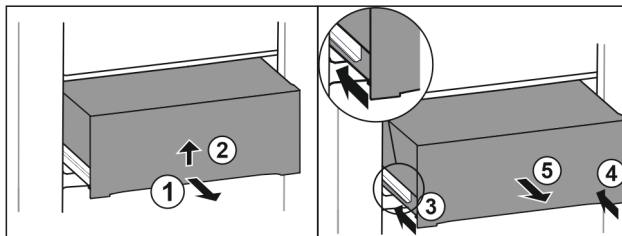

Fig. 40
- ▶ Pull out drawer half-way. Fig. 40 (1)
- ▶ Lift the drawer from the bottom. Fig. 40 (2)
- ▶ Insert left rail. Fig. 40 (3)
- ▶ Insert right rail. Fig. 40 (4)
- ▶ Remove drawer to the front. Fig. 40 (5)